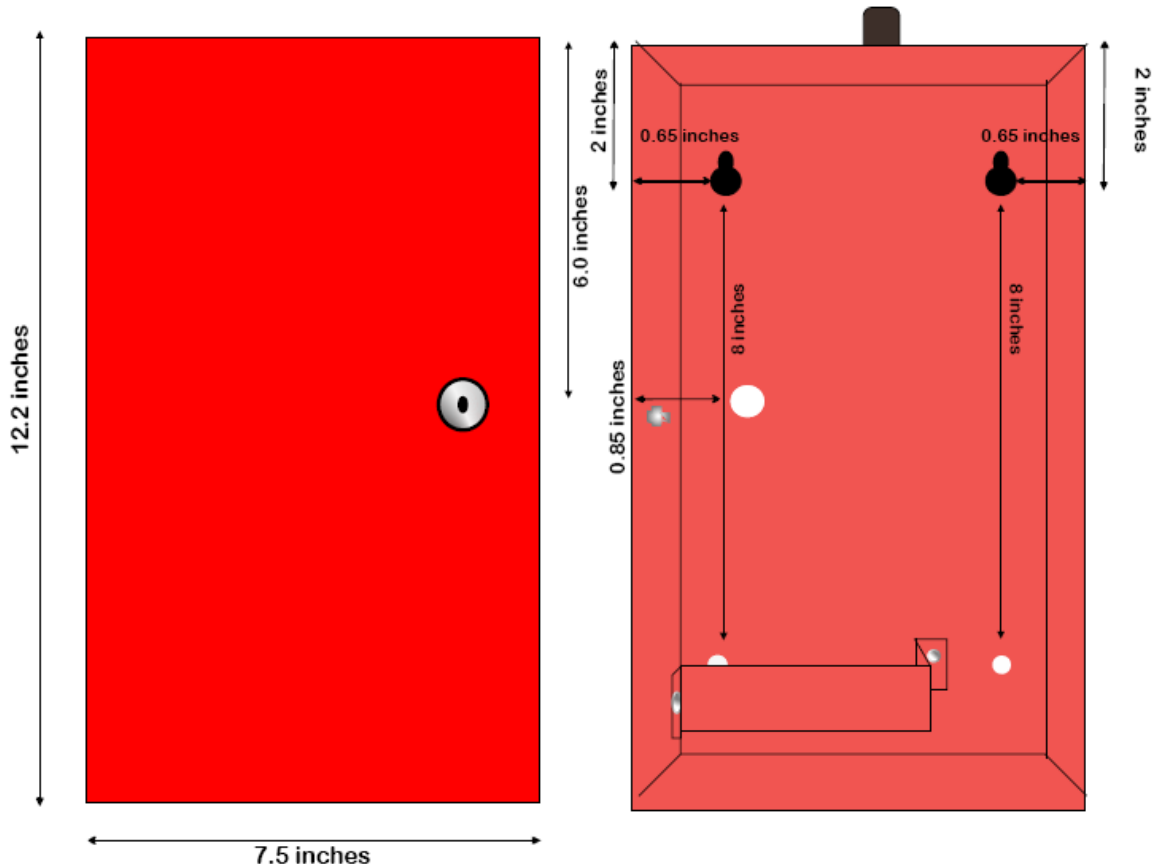

Figure 2: Inside & Outside Mounting Dimensions for the 2550-CF
Position the bottom of the 2550-CF enclosure where it will be installed. Use four (4) #6 screws and mount the unit using the four holes in the enclosure's plastic bottom. The 2550-CF unit's dimensions are shown in Figure 2.